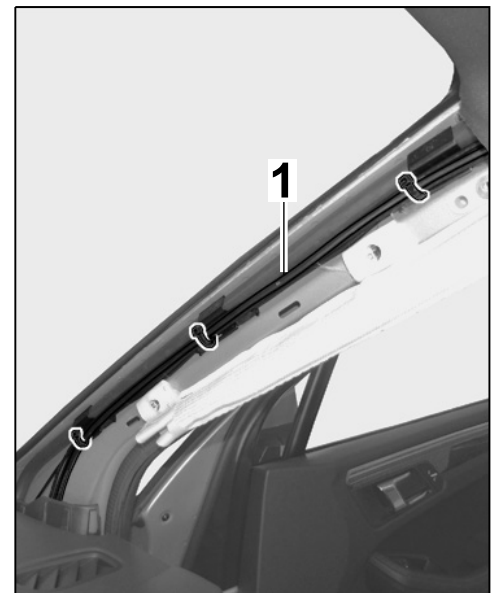

Figure 10
2.7.3 Secure GPS antenna line to the standard wire harness in the A-pillar with a tie-wrap (⇒ *Figure 10*).